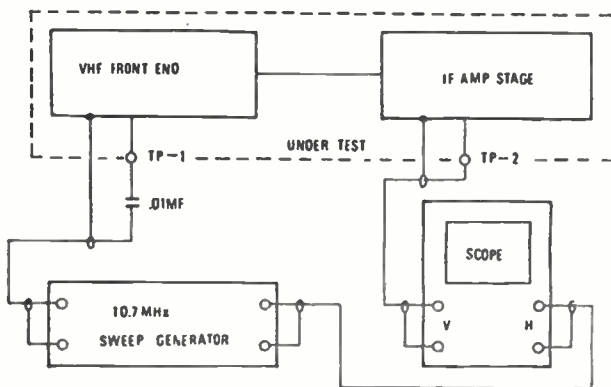

FIGURE 2. IF SECTION ALIGNMENT
Step 1: Connect the instruments as shown in Figure 2.